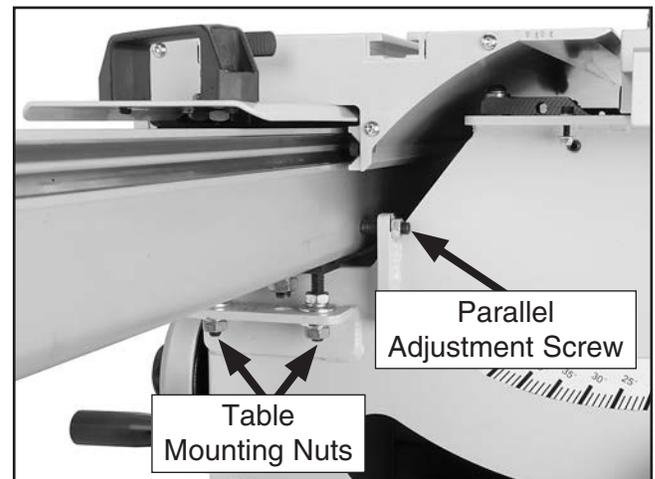

Figure 112. Table parallelism adjustment controls.
7. Loosen the sliding table mounting nuts (see **Figure 112**) at both mounting locations.
9. Slowly rotate the parallel adjustment screw (see **Figure 112**) as necessary to move the table. If you move the adjustment screw away from the table, then push the table against the screw before proceeding.